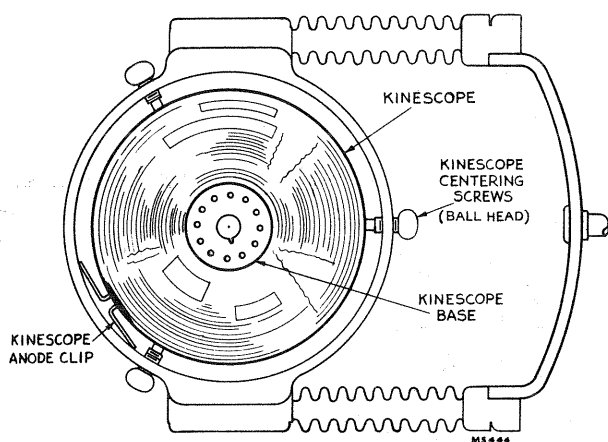

Figure 3—Kinescope Holder
Although the high voltage filter capacitors of a new receiver are not likely to be charged, it is a good idea to form the habit of discharging the optical barrel before making any internal adjustments. Take a clip lead, fasten the clip end to the barrel and discharge the unit by making repeated contacts to the kinescope holder shown in Figure 3.
**INSTALLATION OF KINESCOPE**—The kinescope second anode contact is a recessed metal well in the side of the bulb. A small brass clip (from the carton containing the deflection yoke and front panel control knobs) must be placed in the kinescope anode contact and the tube inserted in the holder as shown in Figure 3. The tube must be installed so that the socket key on the base of the tube is pointed towards the horizontal deflection chassis. Make sure that the anode clip is horizontal so that it cannot protrude out of the holder.
**HEIGHT AND VERTICAL LINEARITY ADJUSTMENTS**—Adjust the height control (R149 on r-f, i-f chassis rear apron) until the picture fills the screen vertically. Adjust vertical linearity (R175 on rear apron), until the test pattern is symmetrical from top to bottom. Adjustment of either control will require a readjustment of the other. Adjust vertical centering to align the picture with the mask. In some cases it may be necessary to shift the position of the kinescope in the holder (see Figure 3) in order to obtain proper centering of the picture.